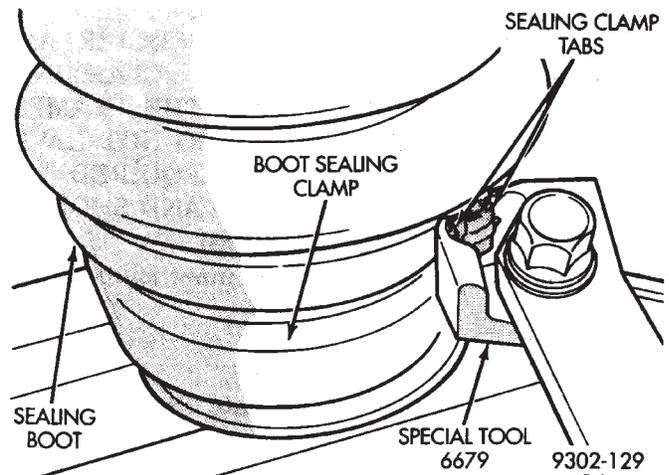

Fig. 20 Special Tool Installed On Sealing Clamp
(4) Open jaws of Clamp Installer, Special Tool 6679, until tabs on boot sealing clamp are positioned between jaws of tool (Fig. 20).